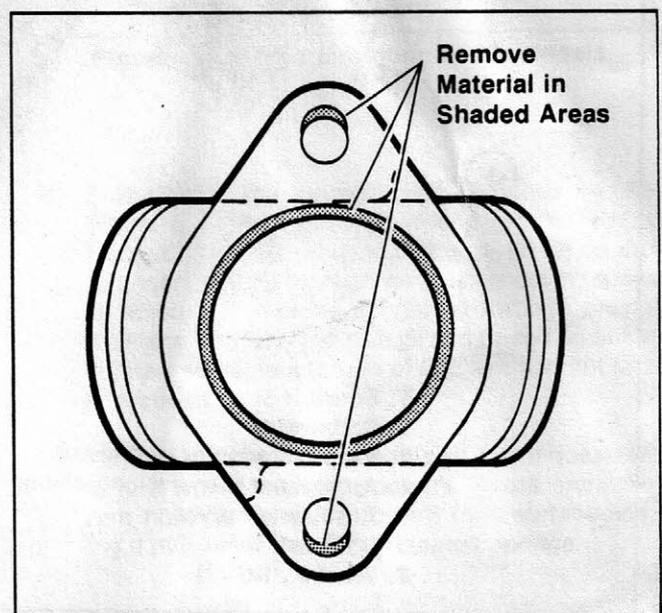
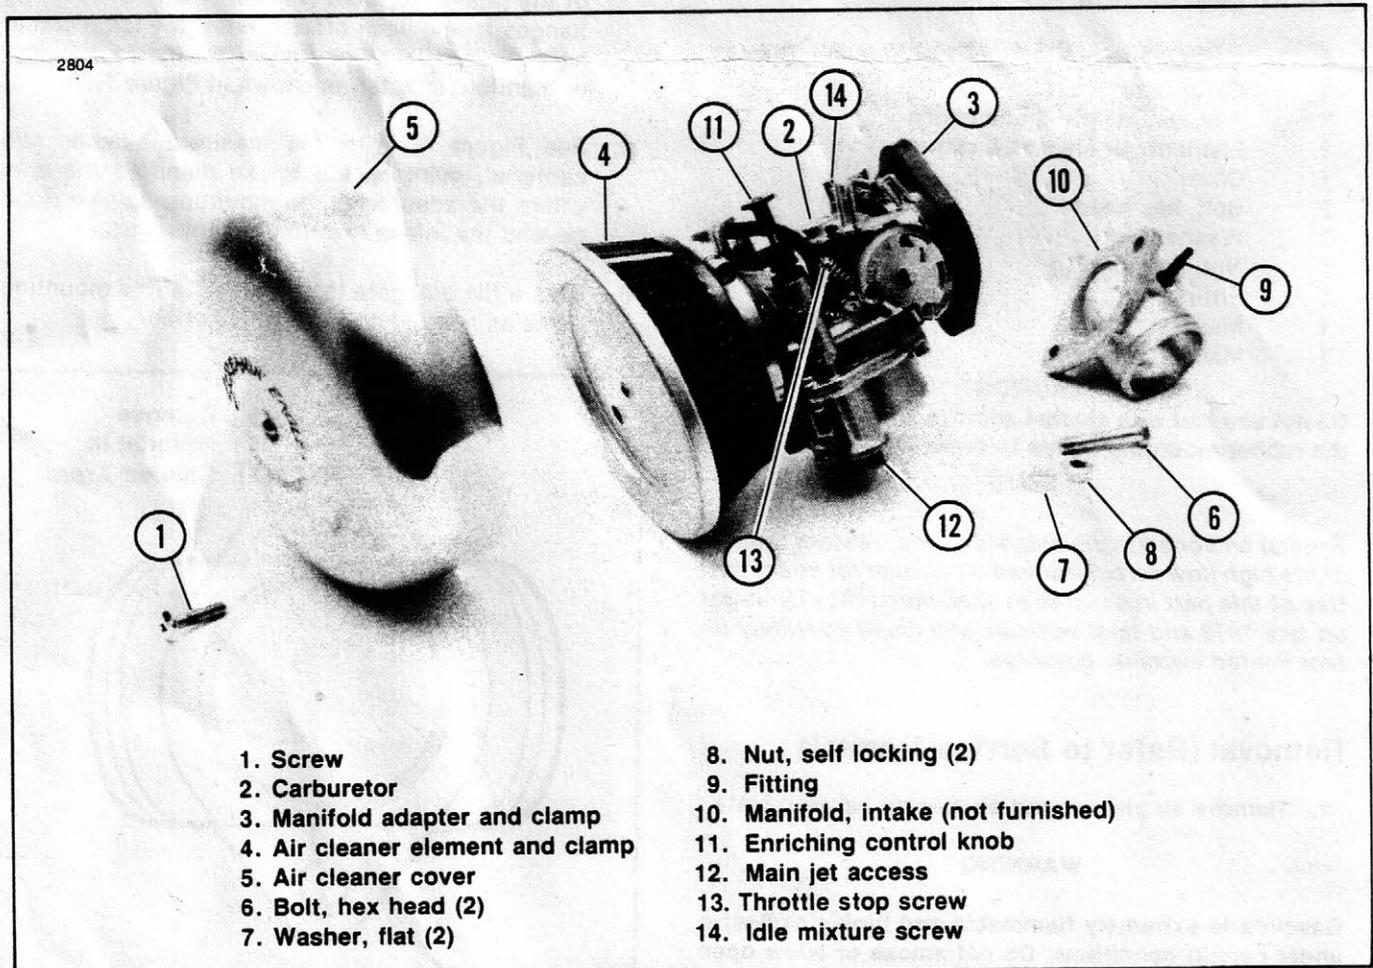

Figure 1. Manifold Rework
Figure 3. High Flow Carburetor and Air Cleaner Assembly
1. See Figure 3. Place the manifold adapter (3) on top of the intake manifold (10) with the two mounting flanges facing each other. Center the large center holes then trace a line around the inside diameter of manifold adapter as shown in Figure 1.
2. See Figure 1. With the manifold adapter still centered, mark on the intake manifold the area where the adapter flange mounting holes extend beyond the intake manifold mounting holes.
7. See Figure 3. Apply Loctite Pipe Sealant with Teflon to threads and thread fitting (9) into the tapped hole in the intake manifold (10).
1. See Figure 3. Install the intake manifold (10) with fitting (9) for the V.O.E.S. hose connection at the top.
2. Install rubber manifold adapter (3) around carburetor throat ring groove. Be sure carburetor is fully seated in the adapter manifold. Tighten clamp securely without cutting rubber surface.
3. Attach the manifold adapter and carburetor assembly to manifold (10) using bolts (6), washers (7) and nuts (8). Tighten nuts (8) to 10-14 ft. lbs. torque.
Servicing Air Cleaner (Figure 3)
Operation and Adjustment (Figure 3)